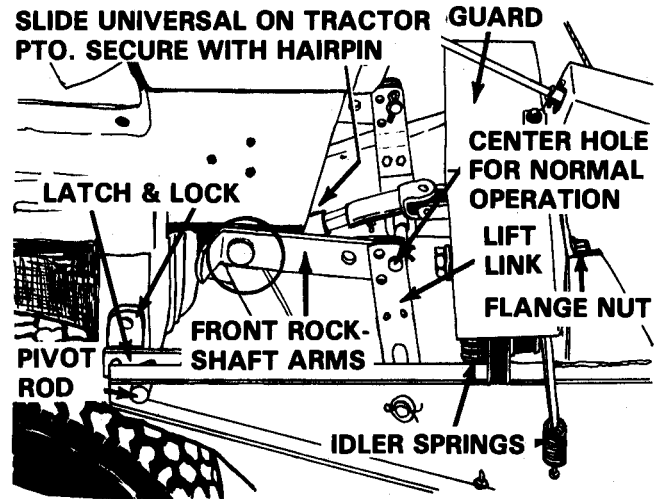

FIGURE 15
1. Apply a light coat of grease to the tractor saddle brackets, to the splined PTO shaft, and to the sliding portions of the shaft assembly. The protective covering must be removed from the splined PTO shaft. See Figure 15.
2. Raise the locks and the latches on the front of the tractor. Align front of tractor squarely with the pivot rod on the Sno-Thro and carefully drive the tractor forward until Pivot Rod is cradled in the tractor saddle brackets. See Figure 15.
4. Lower the latches and locks. See Figure 15.
5. Attach drive shaft assembly to the tractor splined PTO shaft and secure with the special hairpin cotter provided. See Figure 15.
7. Raise or lower front rockshaft arms to align with desired mounting holes in Sno-Thro lift links. Center hole is recommended for normal use. Lower hole will increase height the Sno-Thro may be lifted. The higher hole will allow Sno-Thro to be operated at a lower position. Secure with the hairpin cotter as shown in Figure 15.